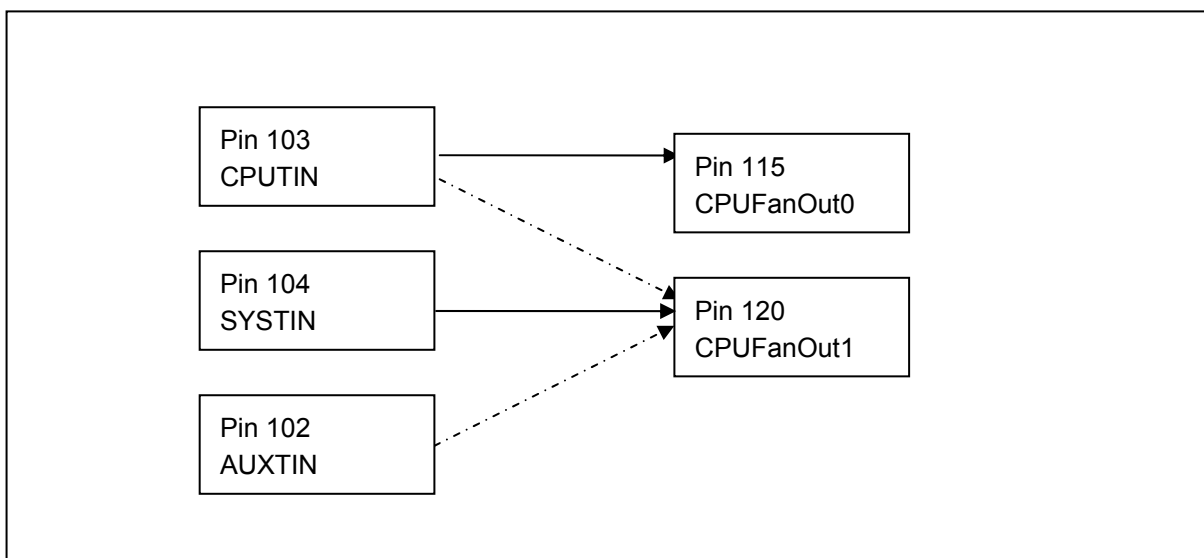

Figure 6.9, 6.10, and 6.11 illustrate SMART FAN™ III mode, and the algorithm of fan speed control is described as follows:
- (1) Figure 6.9 shows the initial condition of SMART FAN™ III. Target Temperature, Temperature Tolerance, Maximum Fan Output and Minimum Fan Output must be set first. If the currently measured temperature is within the (Target Temperature \pm Temperature Tolerance), the fan speed remains constant.